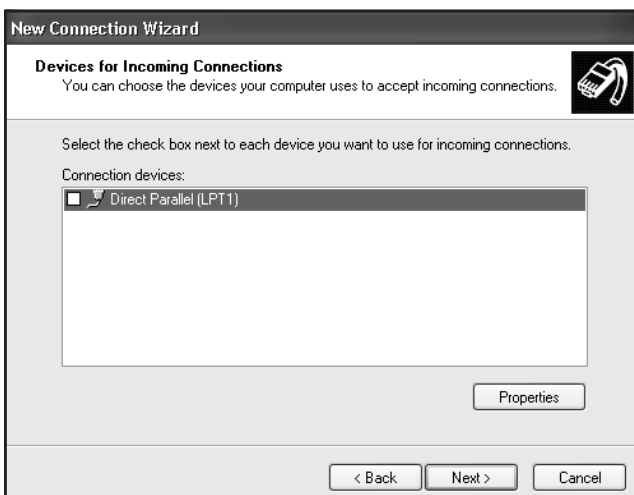

Figure 214 Selecting Devices for Incoming Connection
6. Do not configure any connection devices if this is a stand-alone system. See Figure 214. Click on **Next**.